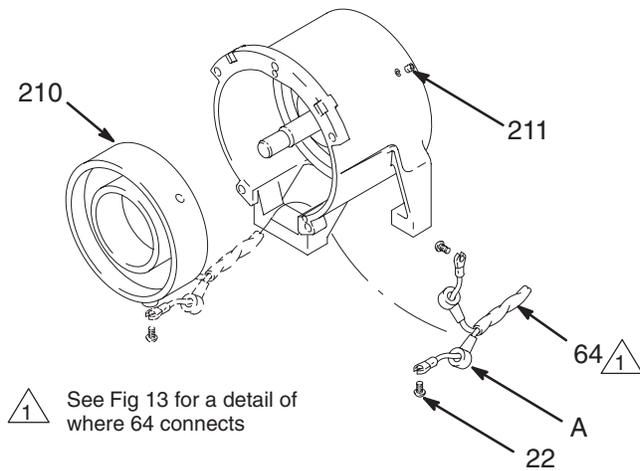

Fig. 12
**NOTE:** Refer to Fig. 12.
1. Pull the plastic caps (A) off the wire screws (22) in both places on the field. Loosen the screws and release the wires (64).
2. Loosen the four setscrews (211). Pull off the field (210).